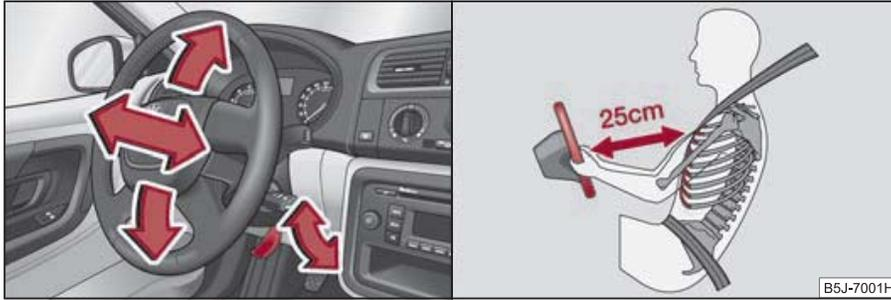

Fig. 94 Adjustable steering wheel: Lever below the steering column/Safe distance to steering wheel
- Pull the lever below the steering wheel down ⇒ fig. 94 - left ⇒ ⚠.
- The driver must maintain a distance of at least 25 cm to the steering wheel ⇒ fig. 94 - right. Not maintaining this minimum distance will mean that the airbag system will not be able to properly protect you - hazard!